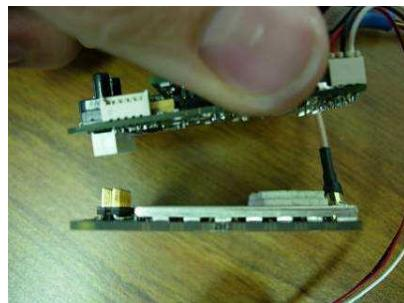

Figure 7-12 Removing modem prior to using TCP/IP connection to Aviones
1. Remove the modem from the autopilot (either from the back of the autopilot or from the modem plug on the front) (See Figure 7-12). **Note:** Removing the modem is not necessary when using Kestrel Hardware versions 2.23 and above.